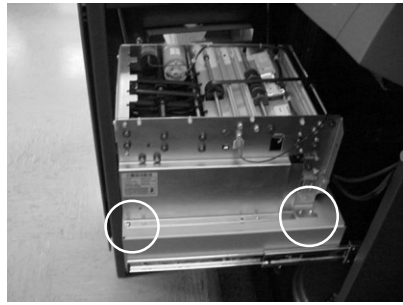

Figure 3. Location of mounting holes..
6. Refer to Figure 3. Turn the dispenser around with the cables facing the back of the cabinet and align the tabs and holes in the bottom of the dispenser with the mounting holes in the tray. Secure the dispenser to the tray using four of the #8-32, 3/8-inch (9 mm), screws that were supplied in the accessory kit